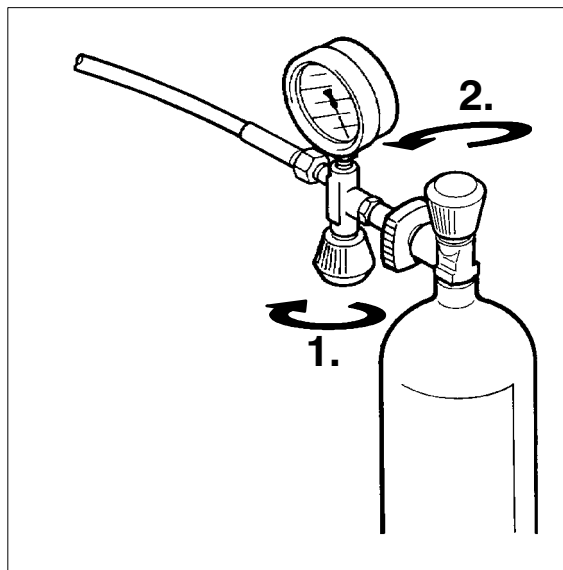

Fig. 24 Filling air bottle
- Open filling valve (1, Fig. 24).
- Open bottle valve (2) - bottle will be filled. Drain condensate regularly during filling.